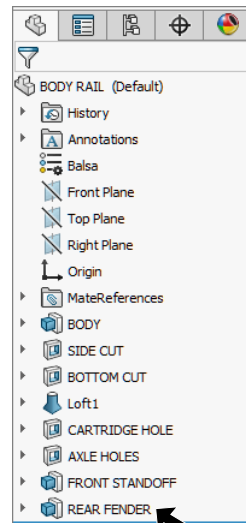

Fig. 98
Step 1. **Rename Boss-Extrude1 to REAR FENDER** in the Feature Manager, **Fig. 98**. To rename, use **F2** on keyboard.